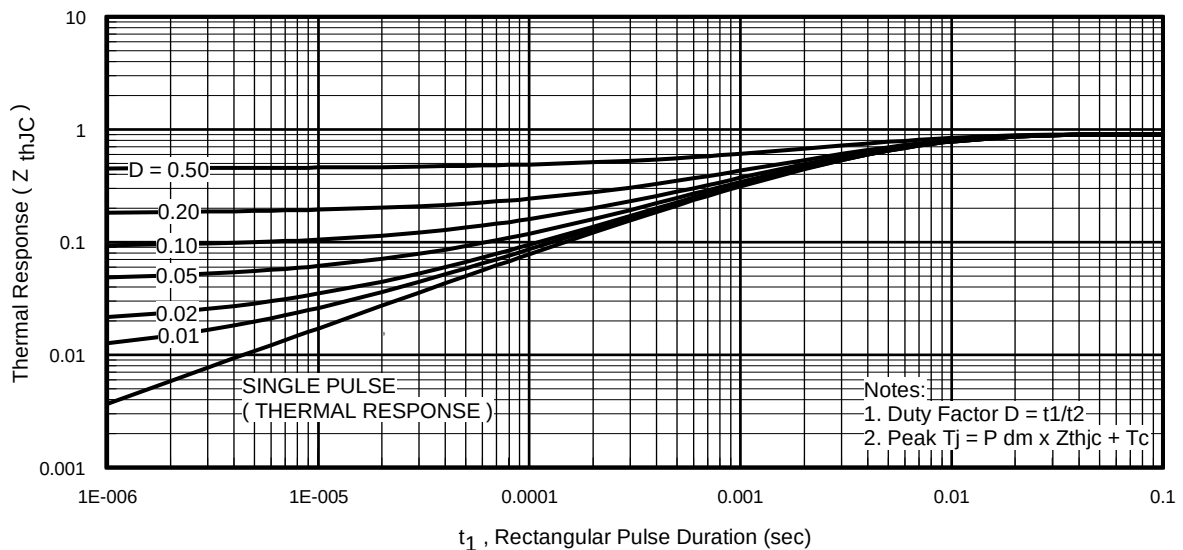
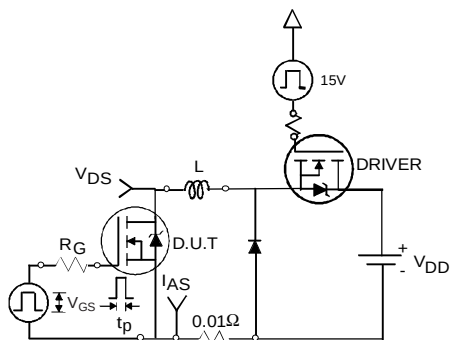

Fig 11. Maximum Effective Transient Thermal Impedance, Junction-to-Case
Fig 12a. Unclamped Inductive Test Circuit
- ① Repetitive rating; pulse width limited by max. junction temperature. (See fig. 11).
- ② Limited by T_{Jmax} , starting $T_J = 25^\circ\text{C}$, $L = 0.12mH$, $R_G = 25\Omega$, $I_{AS} = 53A$, $V_{GS} = 10V$. Part not recommended for use above this value.
- ③ $I_{SD} \leq 53A$, $di/dt \leq 420A/\mu s$, $V_{DD} \leq V_{(BR)DSS}$, $T_J \leq 175^\circ\text{C}$.
- ④ Pulse width $\leq 1.0ms$; duty cycle $\leq 2\%$.
- ⑤ $C_{oss \text{ eff.}}$ is a fixed capacitance that gives the same charging time as C_{oss} while V_{DS} is rising from 0 to 80% V_{DSS} .
- ⑥ Limited by T_{Jmax} , see Fig.12a, 12b, 15, 16 for typical repetitive avalanche performance.
- ⑦ This value determined from sample failure population. 100% tested to this value in production.
- ⑧ This is applied to D²Pak, when mounted on 1" square PCB (FR-4 or G-10 Material). For recommended footprint and soldering techniques refer to application note #AN-994.
3. Equation below based on circuit and waveforms shown in Figures 12a, 12b.
$Z_{thJC}(D, t_{av})$ = Transient thermal resistance, see figure 11)